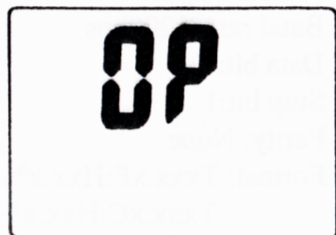

FIG29
1. Display OP with continuous beeps as shown in Fig. 29: